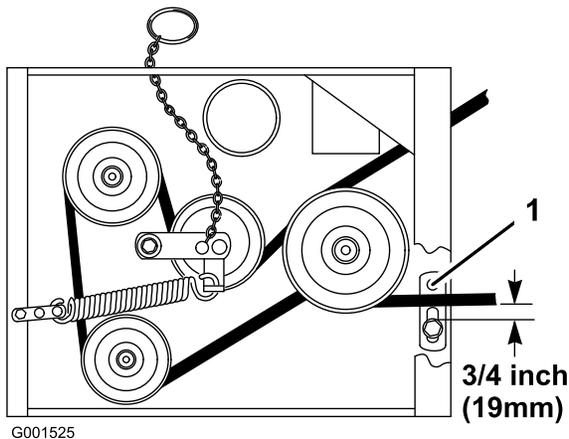

Figure 40
- Check the belt guide under the engine frame for proper adjustment (Figure 40).
Note: The distance between the belt guide and the mower belt should be 3/4 inch (19 mm) when you engage the mower belt (Figure 40). Adjust the mower belt as necessary. The disengaged belt should not drag or fall off the pulley when the guides and belt tension are properly adjusted.